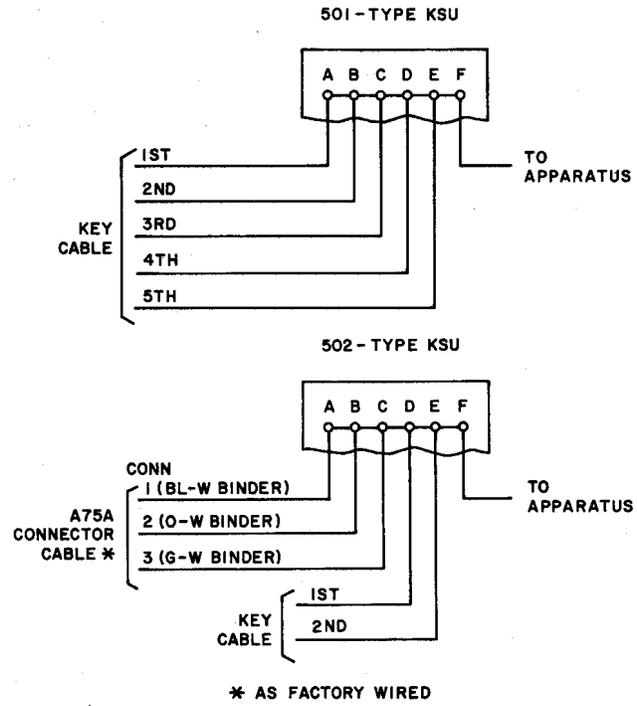

Fig. 6—Key Cable Termination on Connecting Block
4.07 Terminate incoming CO/PBX lines on connecting block D as shown in Table B. Terminate key cables on connecting blocks A and C as shown in Tables B and C. Key cables should be terminated in sequence as shown in Fig. 6.
4.09 A factory supplied length of A75A connector cable is connected to block A. (See Fig. 6)
4.12 Connect additional key cables as needed to available terminals not occupied by connector cable leads (Fig. 6).